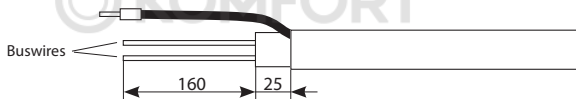

Figure 4
5.1.4. Remove the matrix from the buswires (see Figure 4).